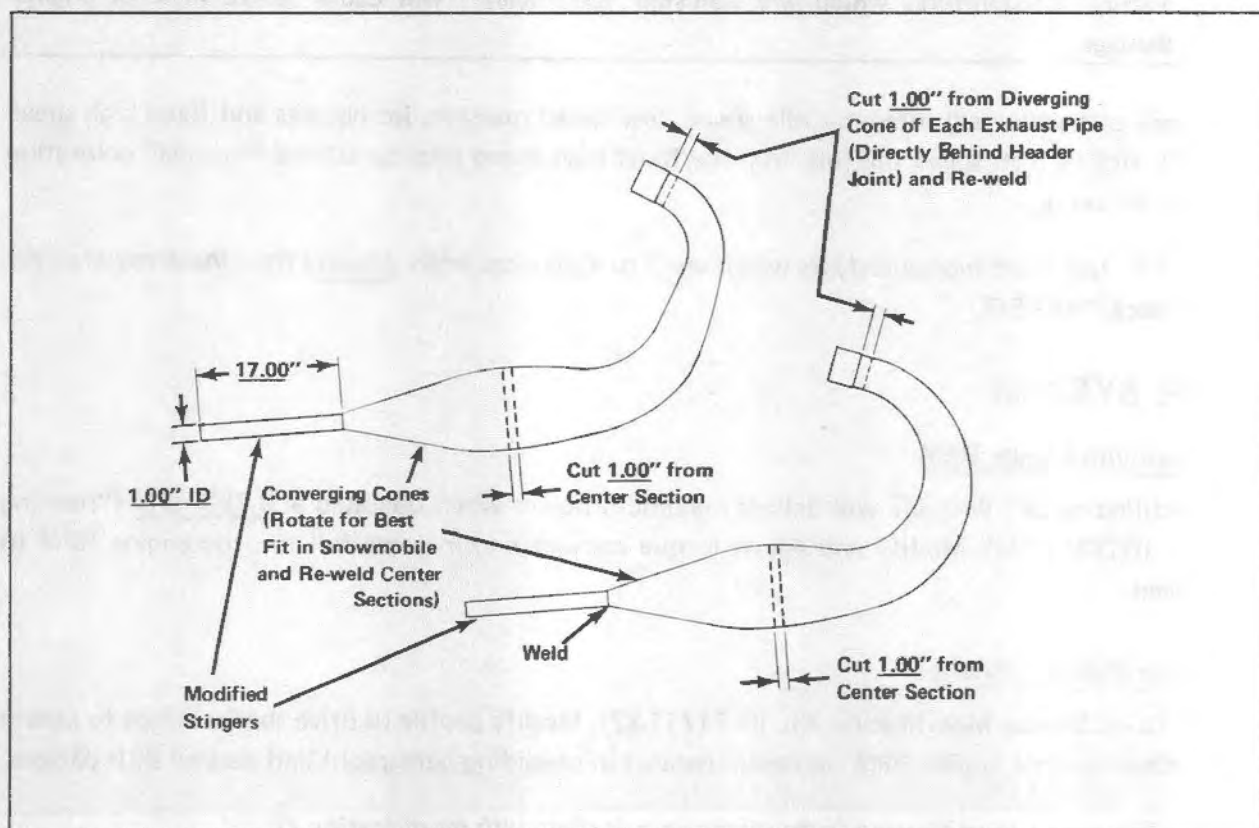

Figure 3. 440 S/T "Modified-Stock" Exhaust Pipes
1. Cut 1.00" (25.40mm) from diverging cone of each exhaust pipe, directly behind header joint. (Figure 3)
1. Cut 1.00" (25.40mm) from center section (at widest part) of each exhaust pipe. (Figure 3)